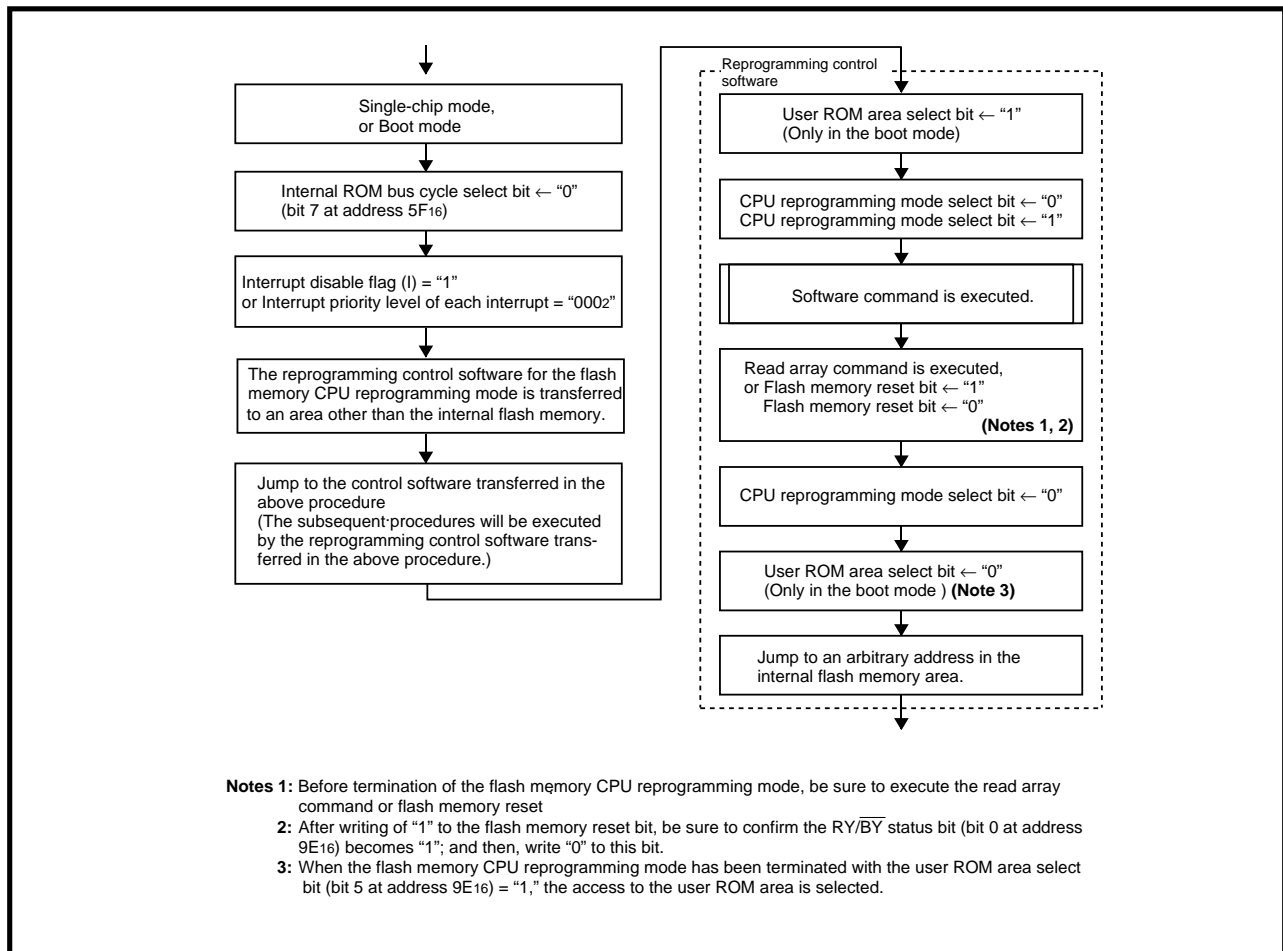

Fig. 19.2.2 Setting and Terminate procedures for flash memory CPU reprogramming mode
Figure 19.2.2 shows the setting and terminate procedures for the flash memory CPU reprogramming mode. In the flash memory CPU reprogramming mode, opcodes cannot be fetched for the internal flash memory. Therefore, be sure to transfer the reprogramming control software to an area other than the internal flash memory and then execute the software in that area.
1. In the flash memory CPU reprogramming mode, an opcode cannot be fetched for the internal flash memory. Accordingly, be sure to transfer the reprogramming control software to an area other than the internal flash memory area, and then execute the software in this area. (See Figure 19.2.2.)